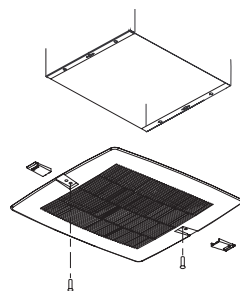

Figure 8
3. Slide attachment screw covers over the attachment screws, shown in Figure 8.